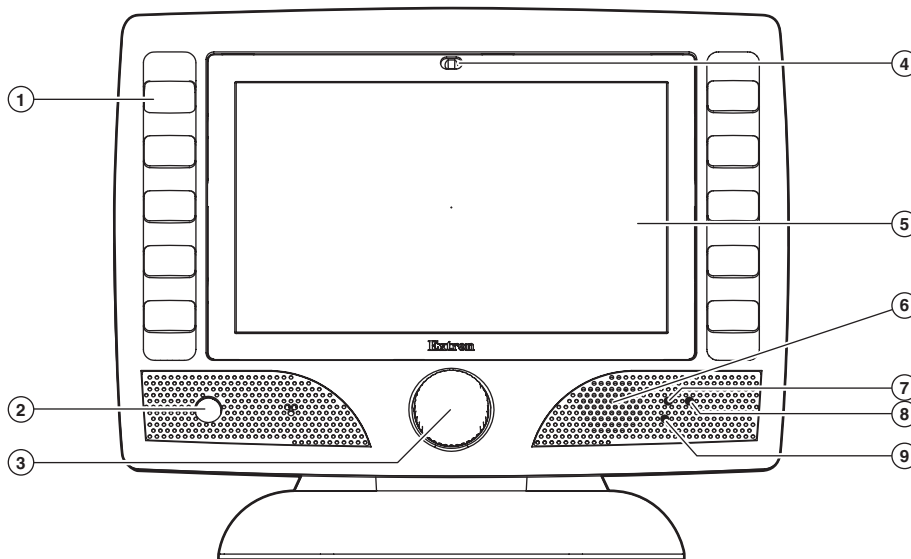

Figure 1. Front panel
1. Use a paper clip to press the recessed menu button (Ⓢ), as shown in figure 1. This opens the setup menu at the Main Setup Page (see figure 8).